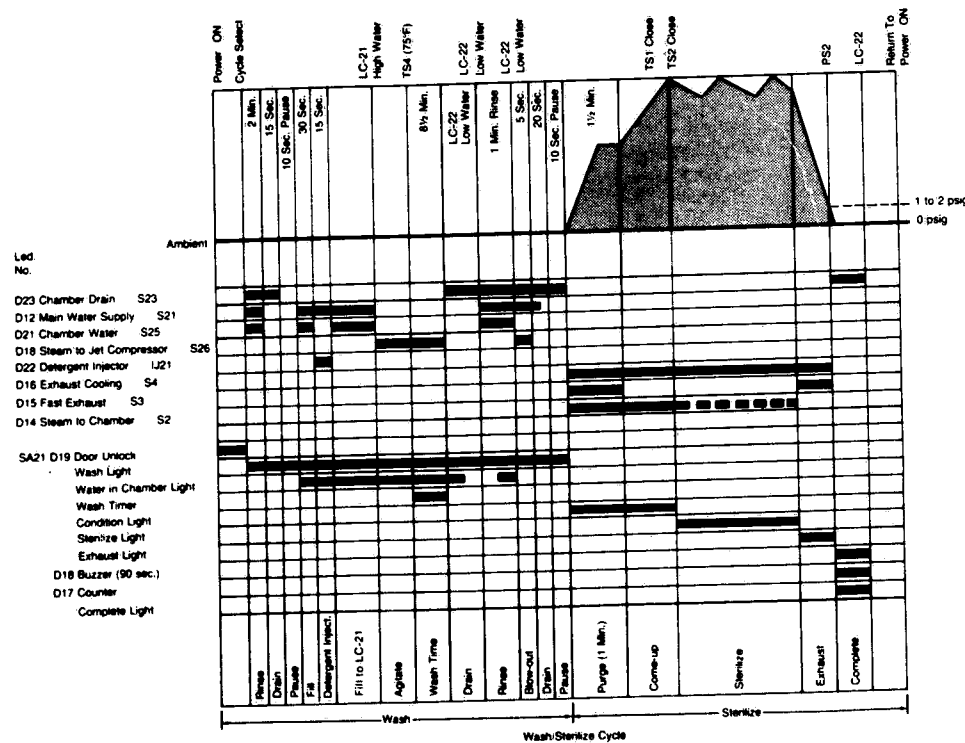

Figure 6-1. CYCLE GRAPH
2. Use the cycle graph, Figure 6-1, in order to follow the cycles through the various phases. The cycle graph may also be used to check for correct operation of the solenoid valves which control the various phases.
The cycle graph (Figs. 6-1) is a representation of the operations of the cycles available with the sterilizer. It is intended to be used for two main purposes: (1) as an aid in understanding how the various cycles work; (2) as an aid in troubleshooting. The upper graph is a representation of chamber pressure variation during the separate phases of the cycle. The LEDs (light emitting diodes), located on the printed circuit boards behind the front panel, are identified with the corresponding output